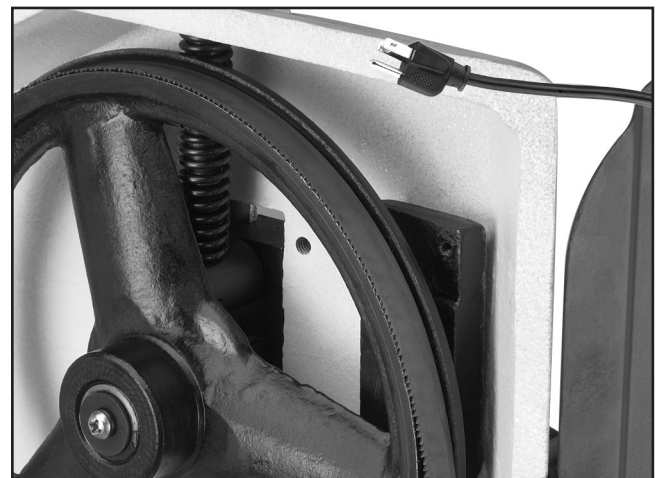

Figure 44. Tension knob and blade.
6. When the blade is around both wheels, adjust the position so the back of the blade is against the shoulder of the wheels (see **Figure 44**).